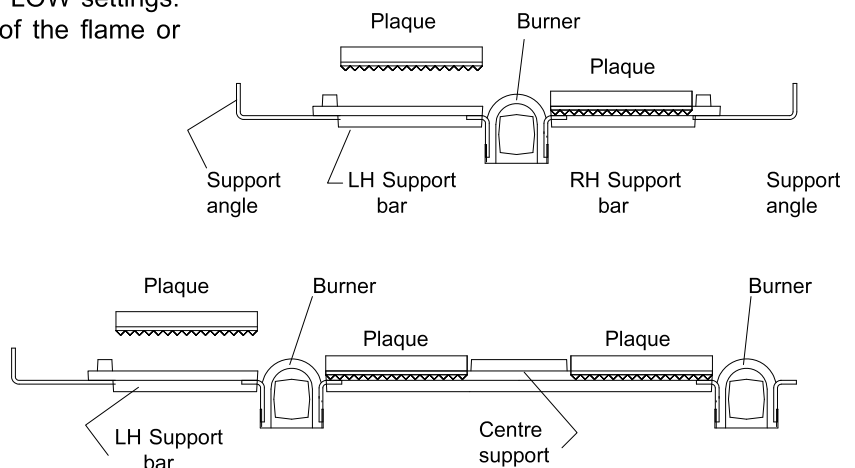

Figure 1
- a) When tunit has been installed in desired location, the centre support bars can be positioned between the burner lugs. Similarly LH and RH plaque supports are located between burner lugs and support angle. See Figure 1 below.